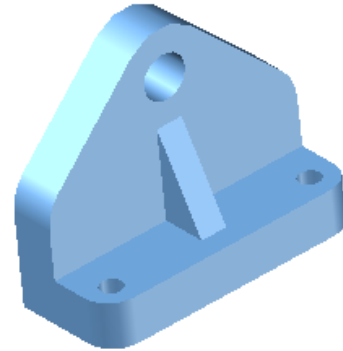

Figure Step 3A
Step 3 On layer: Solid Support, create a solid model of the Support. (Figure Step 3A and 3B)